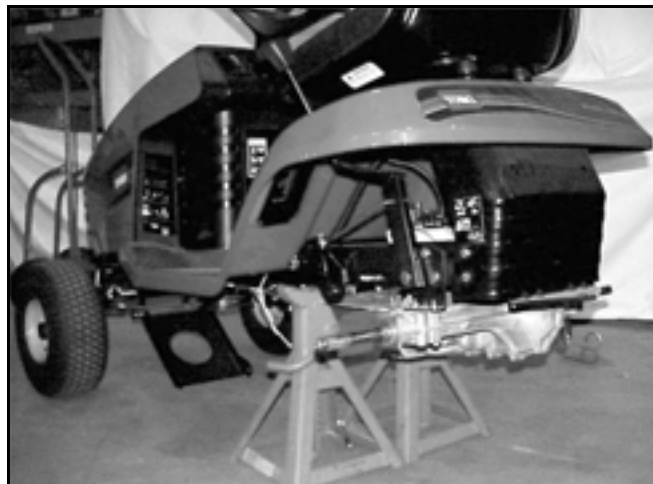

Figure 121
2. Raise the rear of the tractor and remove the right and left rear tires. Put jack stands under the frame, just in front of the transaxle (Figure 121).